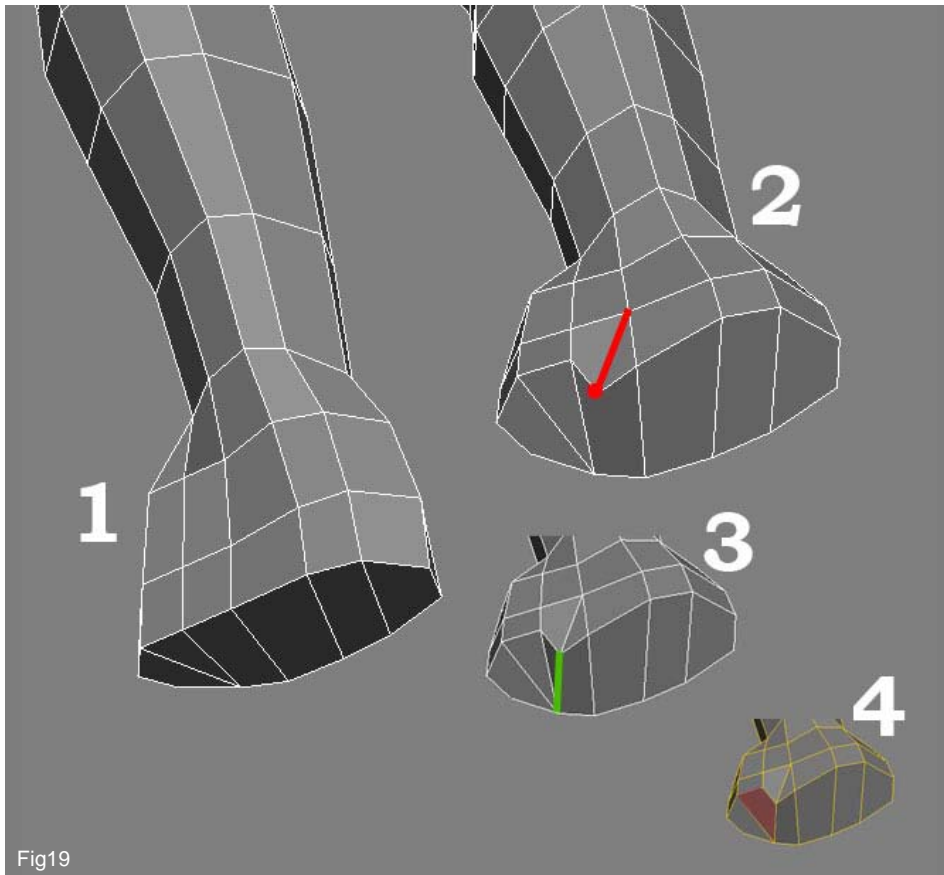

Fig19
19. In part 1 of Fig 19 you can see a couple of extrusions for the hand. Before we can continue with the fingers, we need to rearrange the mesh. Create the cut shown in part 2 of Fig 19 (marked in red); then move the resulting vertex a bit inward, to create a better curvature. Create the cut marked in green in part 3 of Fig 19, and finally remove the edge to eliminate the triangles, as shown in part 4 of Fig 19.